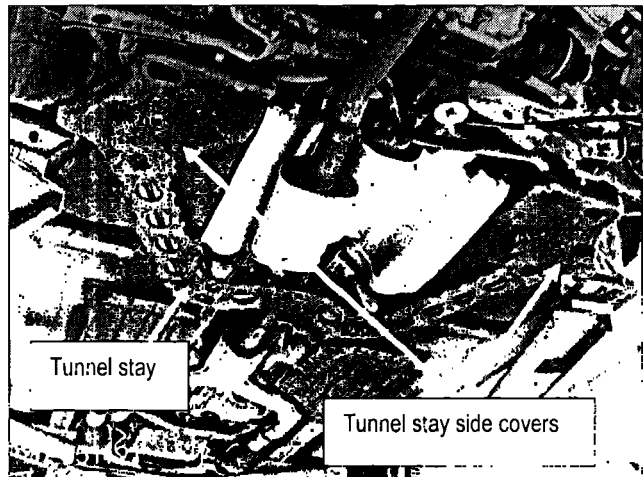

Figure 6
10. Remove nuts and bolts and remove the tunnel stay side covers and the tunnel "stay" (see Figure 6).